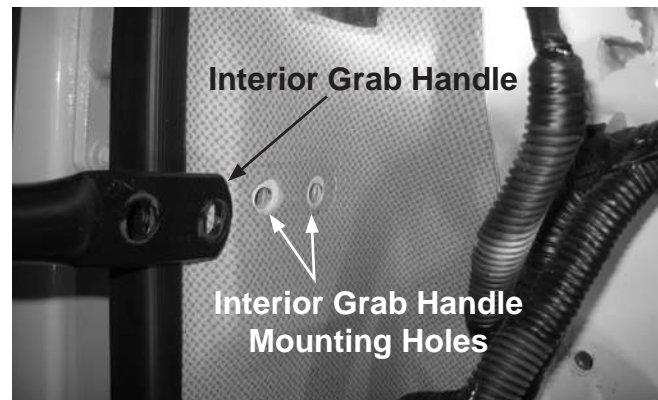

Figure 9-2
- Remove the interior grab handle lower mounting bolts and discard (see Figure 9-2).